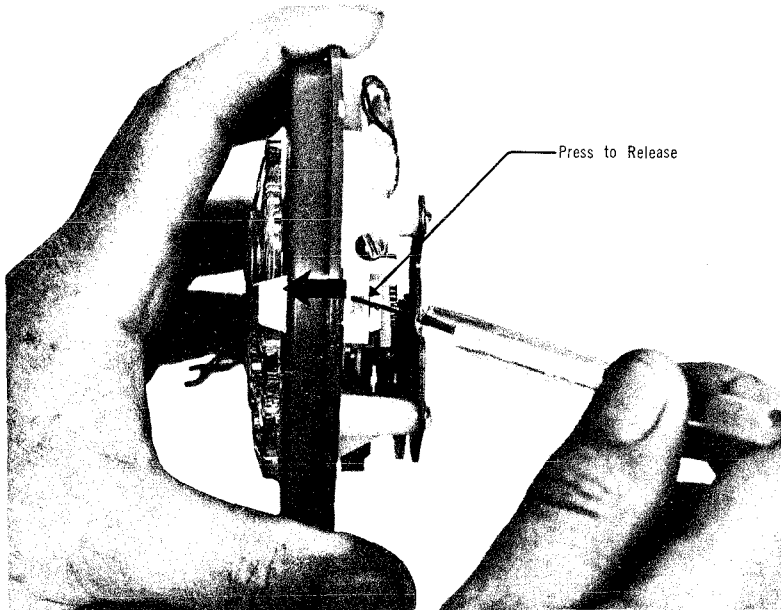

**Fig. 5 — Replacing Fingerwheel**
- (1) Rotate fingerwheel as far as possible in a clockwise direction.
- (2) Insert KS-16750, List 2 dial tool into the small hole located in the edge of the serrated section of the fingerwheel and push down to disengage the fingerwheel clamp spring.
- (3) When clamp spring releases, remove fingerwheel and dial will return to normal.
**4.02 To replace fingerwheel (see Fig. 5):**